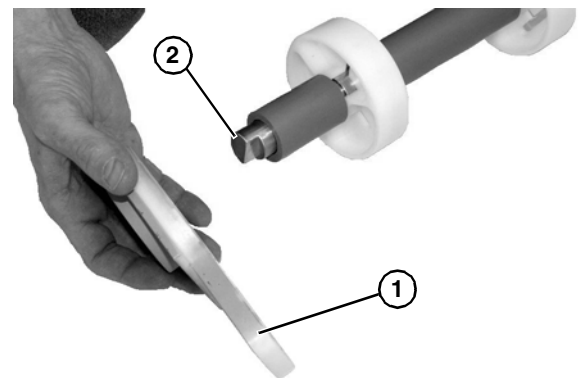

Figure 63
- Slide off idler head plate (**Figure 63, item 1**) from shaft (**Figure 63, item 2**).